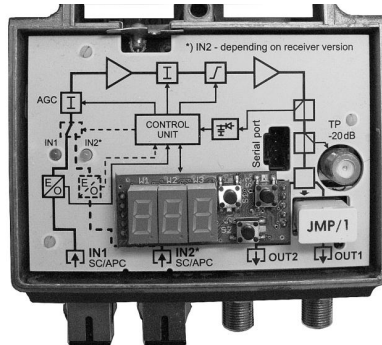

Fig. 8.2. View of the ORB 729 after installation of the TCM 729 local monitoring module.
- Fig. 8.2. View on the ORB 729 after installation of the TCM 729 local monitoring module.